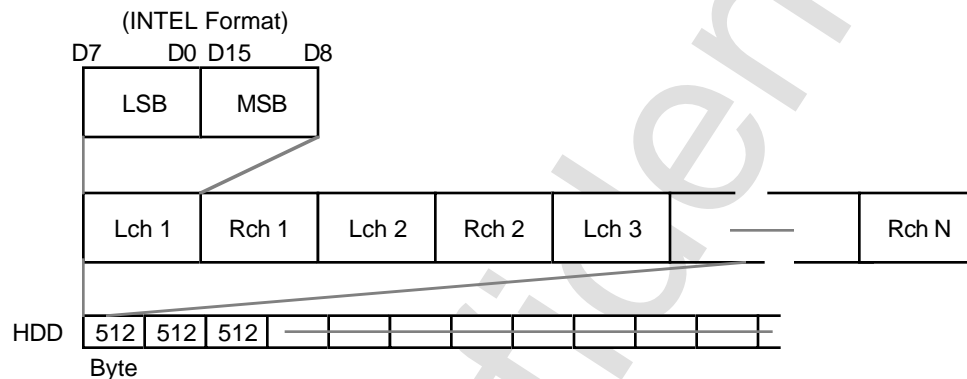

Figure 3 CDDA File Format
- Data within the VCD PC-compatible machine must be arranged in Intel format (Little Endian), as shown in Figure 3 below. When data is in Motorola format (Big Endian), a byte swap must be implemented in advance.